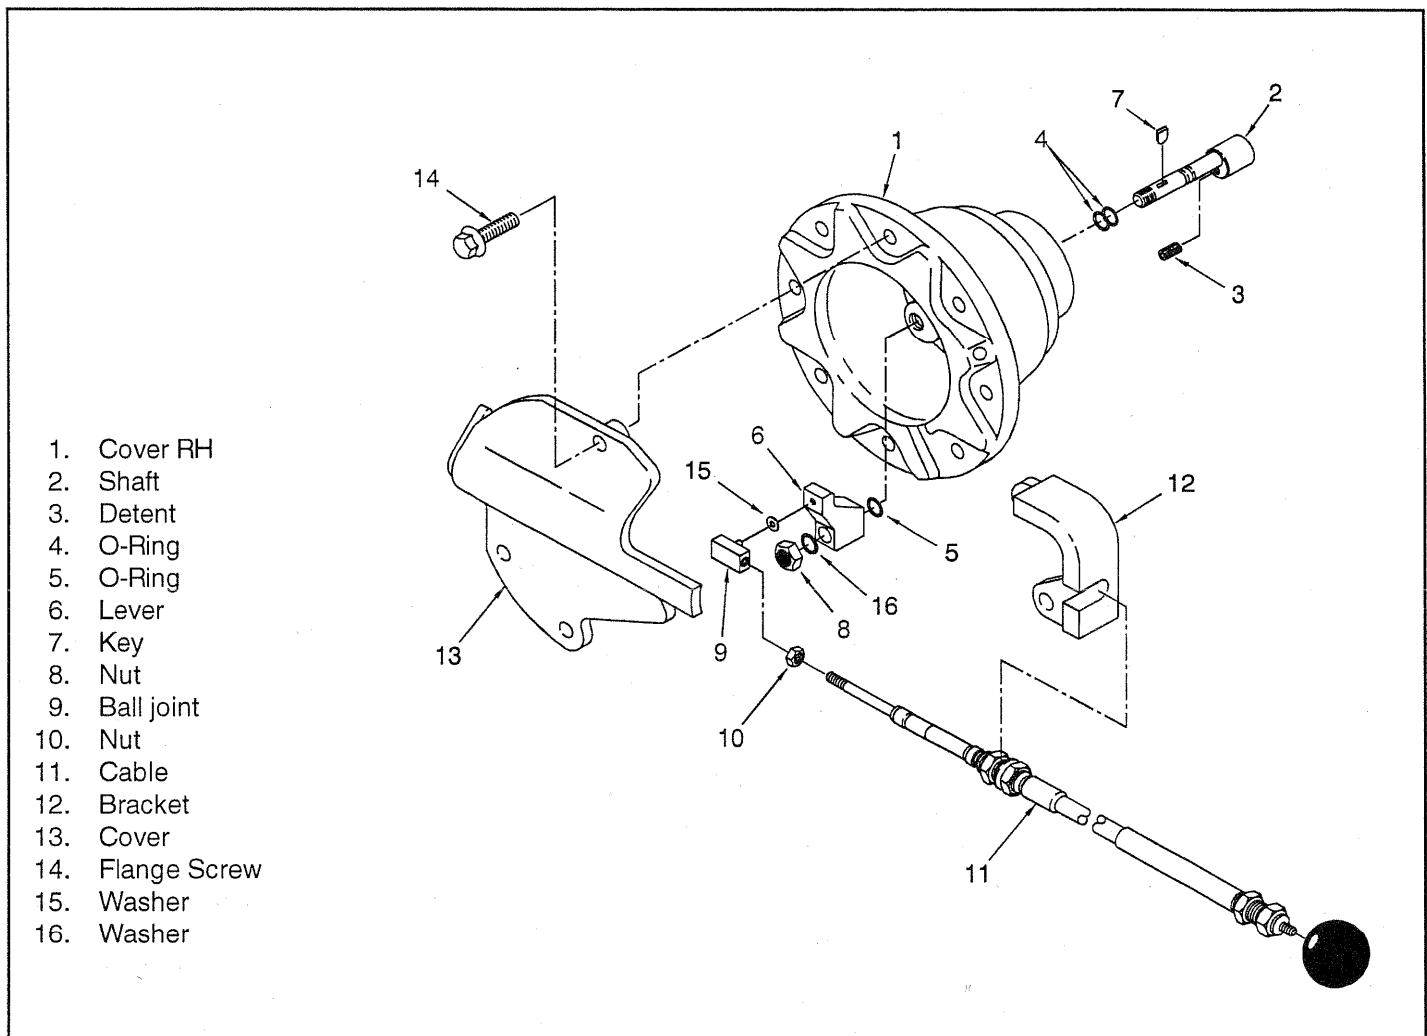

Fig. 5-2 Freespool Lock
2. MECHANICAL FREESPOOL LOCK (See Fig. 5-2)